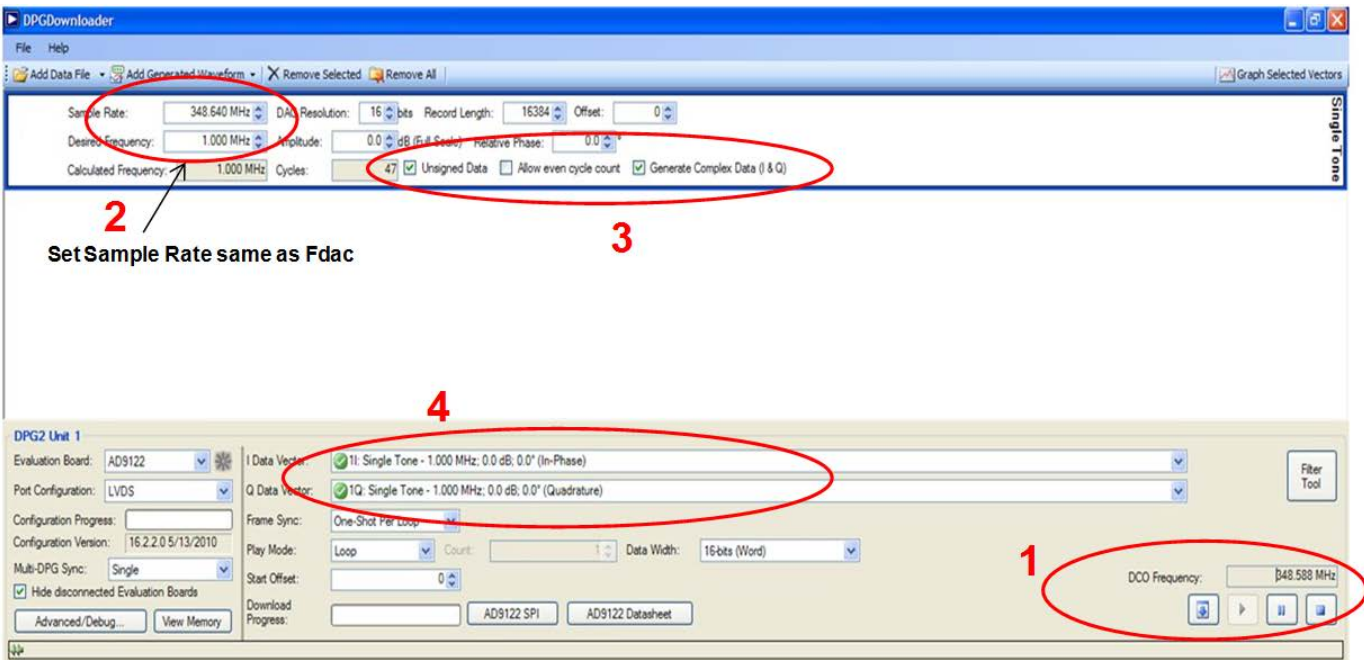

Figure 18. Setting up the DPG Using the DPG Downloader Software
- Make sure DCO frequency ("1" in Figure 18) is close to  $F_{DAC}$  frequency.
- Set sample rate ("2" in Figure 18) same as  $F_{DAC}$  frequency and 1 MHz at desired frequency.
- Set "3" and "4" as shown in Figure 18.
- Download I and Q vector by clicking buttons at "1" in Figure 18.
8. Change frequency of signal generator for  $F_{DAC}$ , change "Data Rate" mentioned in (5), and "Sample Rate" mentioned in (6)
10. Repeat (8), (9)